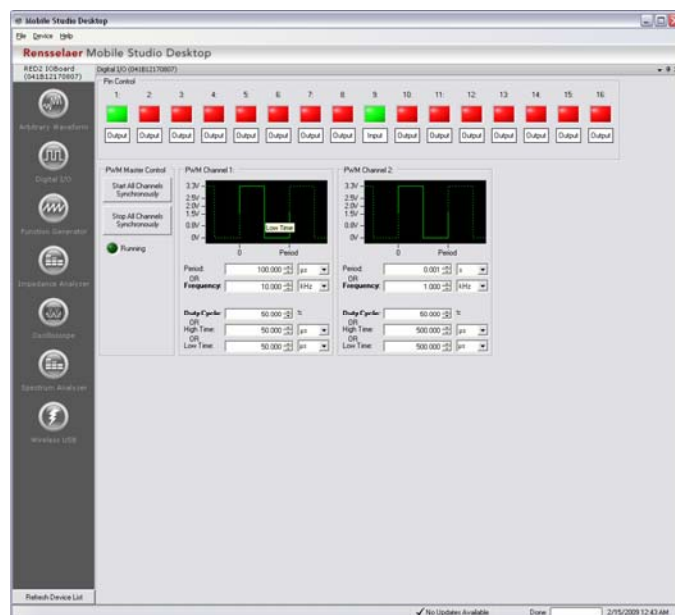

Figure 5-3: Jumper Connection Control
- 5) Once jumpered, changing the status of the output channel will automatically change the status of the connected input channel, shown in Figure 5-3 after only clicking on Channel 1.